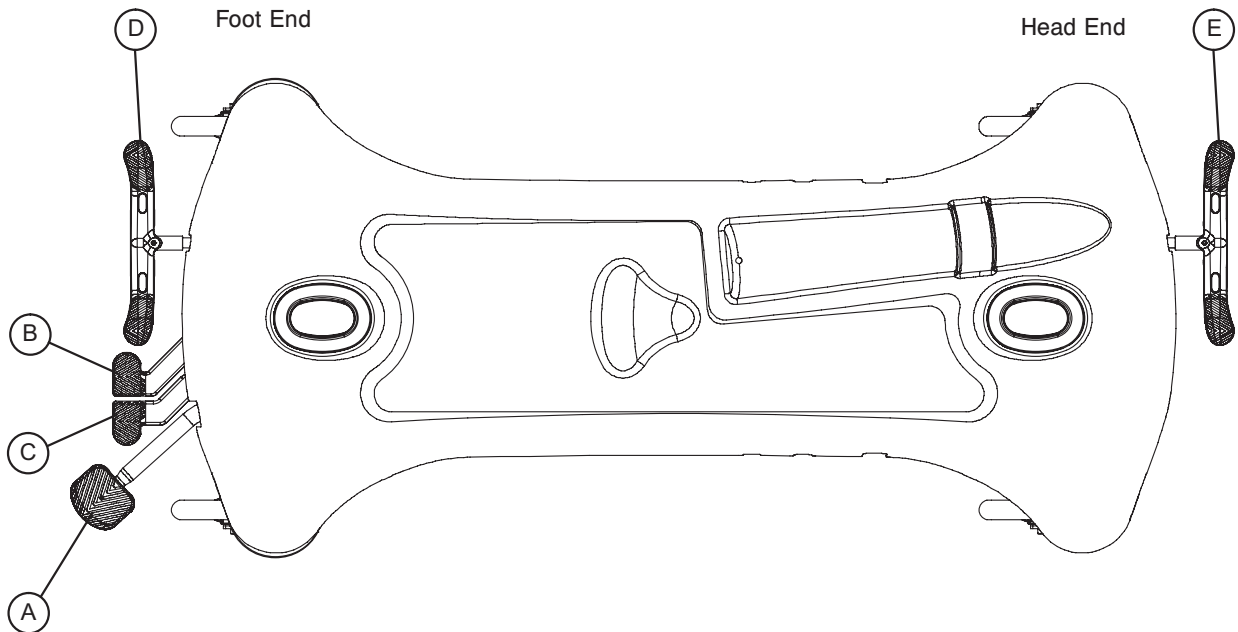

Figure 2 - Stretcher Base Controls - End Control
To operate the base controls, see Figure 2 to locate which pedals are used for what operation. Pedal (A) raises the litter. Pedal (B) and Pedal (C) lowers the stretcher ends. Pedal (D) operates the brake and steer function for the foot end and pedal (E) operates the brake and steer functions for the head end.
To **raise the litter height**, pump pedal (A) repeatedly until the desired height is achieved (see Figure 2 on page 9).
To **lower both ends of the litter simultaneously**, depress pedal (B) and (C) together using the same foot. To lower only the head end of the litter, depress pedal (B). To lower only the foot end of the stretcher, depress pedal (C) or the side of pedal (C) closest to the foot end of the stretcher (see Figure 2 on page 9).
For **Trendelenburg** positioning (head down), depress pedal (B) (see Figure 2 on page 9).